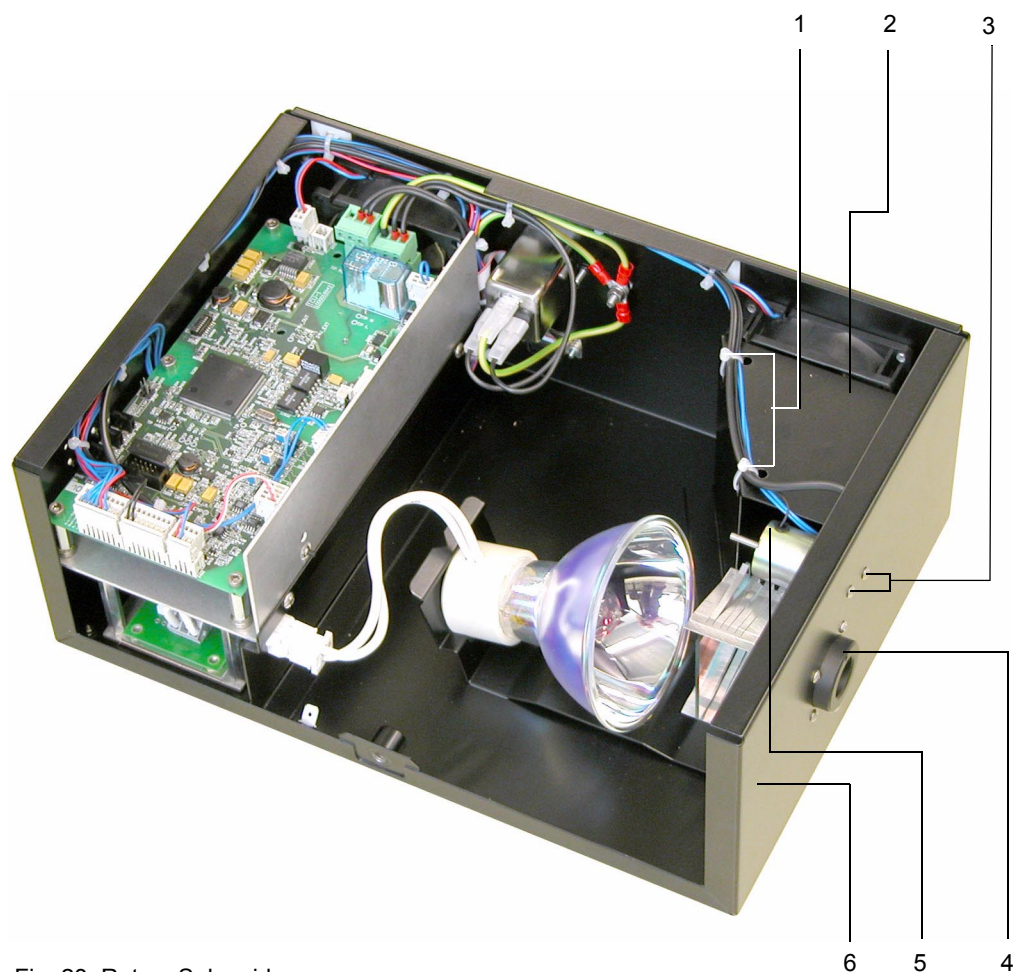

Fig. 23: Rotary Solenoid
The rotary solenoid is shown in Fig. 23 (5) on 50.
7. **Fig. 23:** Disconnect the WAGO 8-port connector from the ICU.
8. Remove the cable ties (1) at the cooling duct (2).
9. Remove the rotary solenoid (5) by unscrewing the two screws (3) which fasten it to the illumination module housing (6).
15. Make sure that when in active position, the blind totally covers the opening of the fiber connector (4).